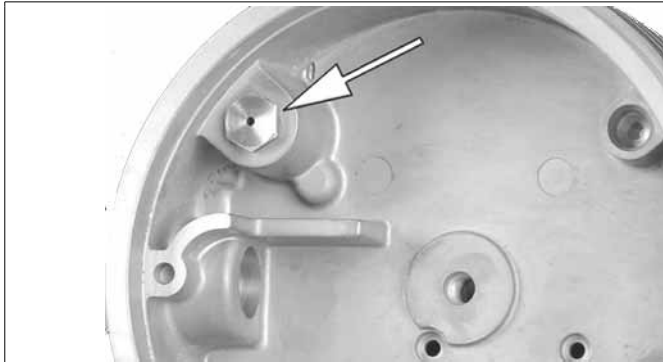
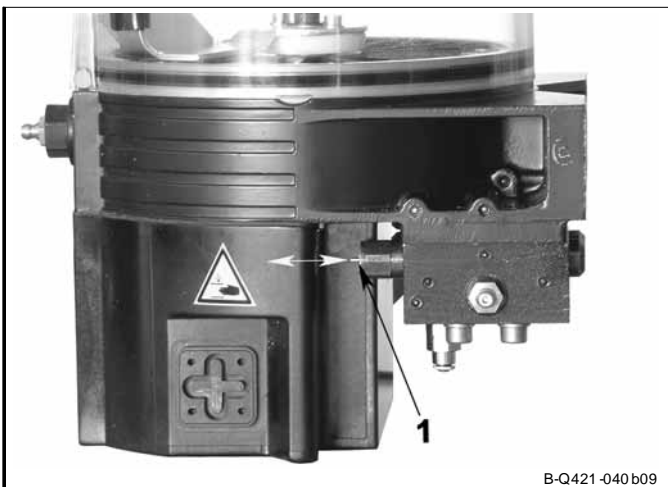

Fig. 8-1 Pressure relief valve (cartridge) in housing
Fig. 9-3 Movement of the indicator pin during the lubricating time
- blockage in the downstream system (Fig. 9.3)
A malfunction in the downstream system can be determined by the indicator pin 1 (Fig. 9-3). If during the lubricating time the indicator pin does not move to the left or to the right side, there exists a malfunction. The pump of the QLS 421 returns the grease invisibly via the pressure relief valve (Fig. 8-1) to the reservoir.
- ➔ Trigger an additional operating cycle (Fig. 13-2). If lubricant is supplied, the indicator pin 1 (Abb. 9-3) moves.